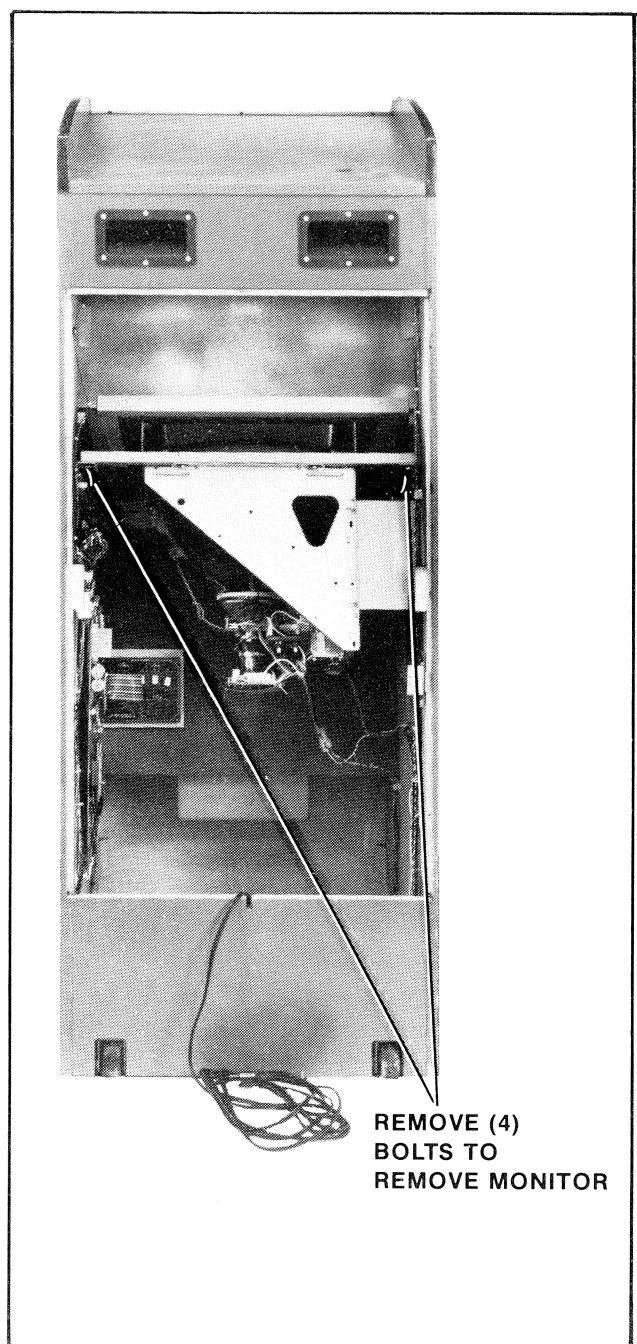

Figure 15 Removing monitor — Upright game
1. UPRIGHT MODEL: See Figure 15.
The monitor mounting channels slide on top of and against two metal guides mounted to the cabinet's right and left sides. The monitor is removed by sliding it out the back of the cabinet. See Figure 15.